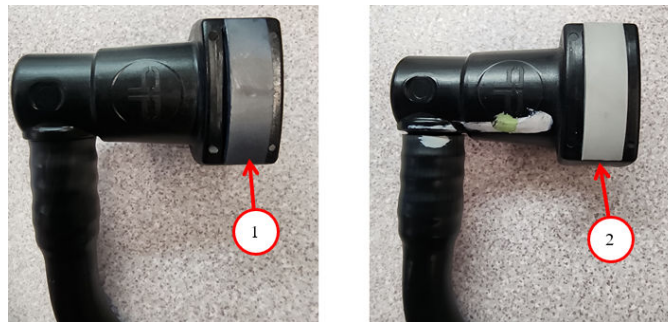

Fig. 3
4. Inspect the purge hose latch color Fig. 3.
5. Is the purge hose latch color dark gray Fig. 3 with a part number of 68499717AD?